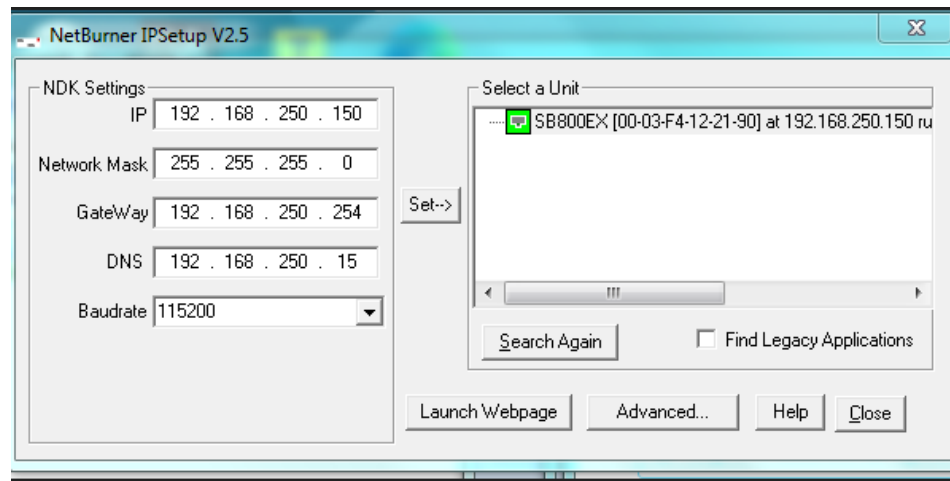

Figure 1 – NetBurner IP Setup Tool Initial Display
- B. A zip file will be downloaded to the computer. Access and run the executable file located in the zip file. Figure 1 shows the window (or similar) that should be displayed: